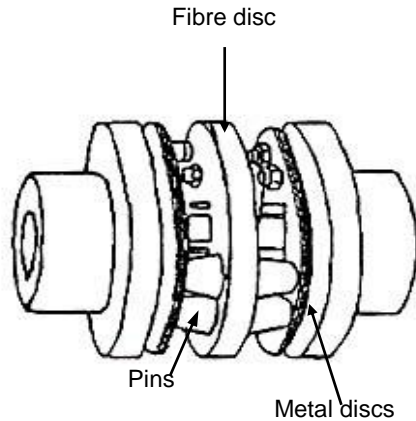

FIG 12.
- A. The metal disc coupling (Fig 12) is similar to the rubber disc coupling and uses a compounded fibrous material disc to transmit the motion.